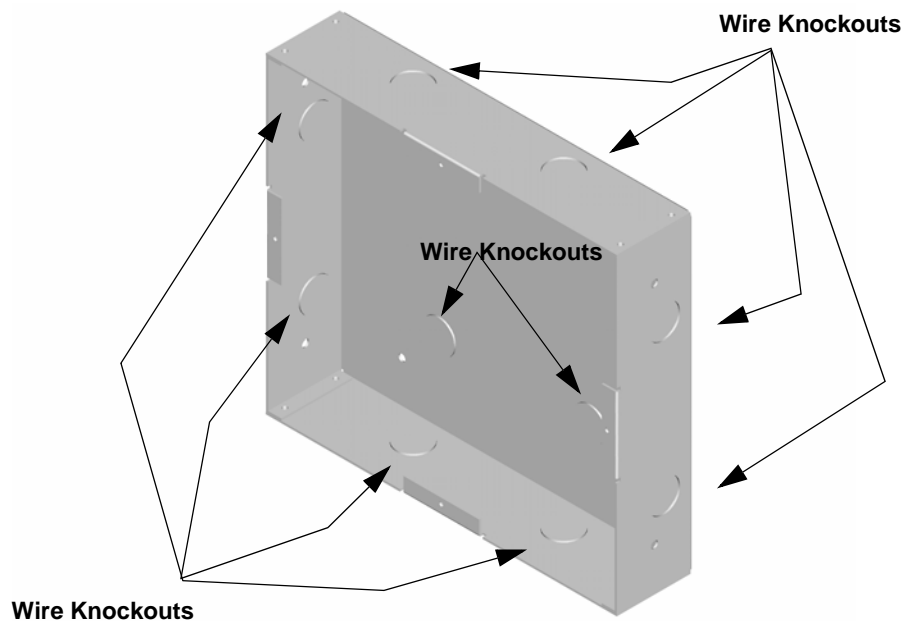

Figure 4.18 Back Box Knockout Locations
2. Remove knockout holes as needed for wires. See Figure 4.18 for backbox knockout locations